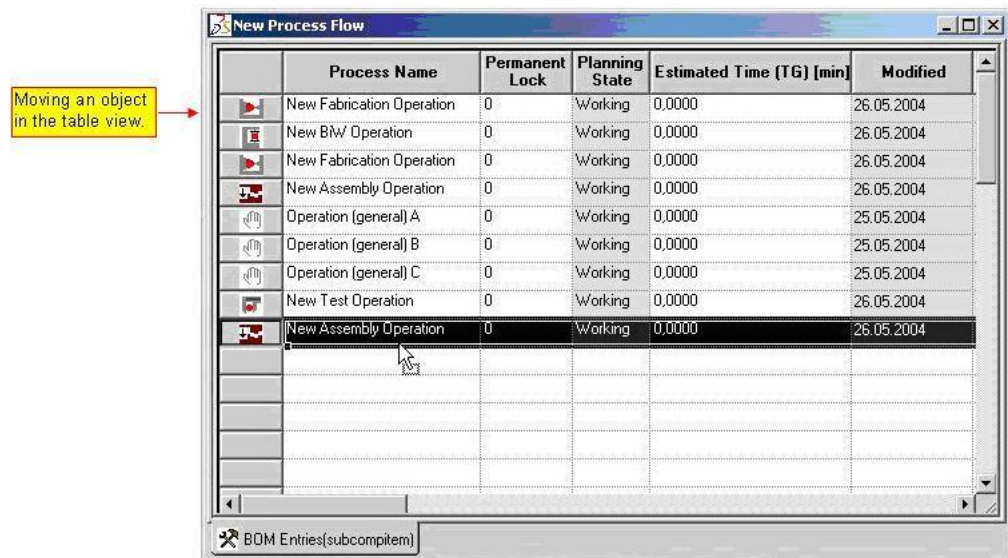

Figure 134: Moving an Object in the Table View
- 4) Click the left mouse button. Move the mouse pointer then to the new spot and let go of the mouse pointer. The red mark indicates the line to which the object is moved. The object is placed at the new spot. *Please refer to the Figure 134.*